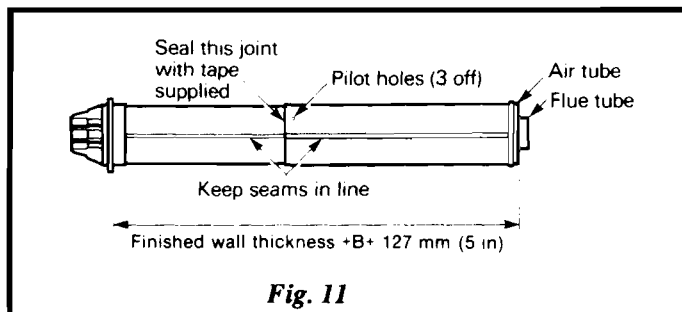

Fig. 11
14.10 Adjust the length of the flue/terminal assembly - see Fig. 11 (side flue).
1. Using the measurements noted in section 14.8, adjust the length of the flue/terminal assembly so that it is: 127 mm (5 in) + A + B, from the back of the terminal flange to the end of the OUTER air tube as shown in Fig. 11. Where A is the finished wall thickness and B is the distance between the side wall and the side of the white case.
2. Drill through the three pilot holes, shown in Fig. 11, with a 2.8 mm drill and secure the two tubes together using the three No.8 x 10 lg. screws supplied with the flue/terminal assembly.